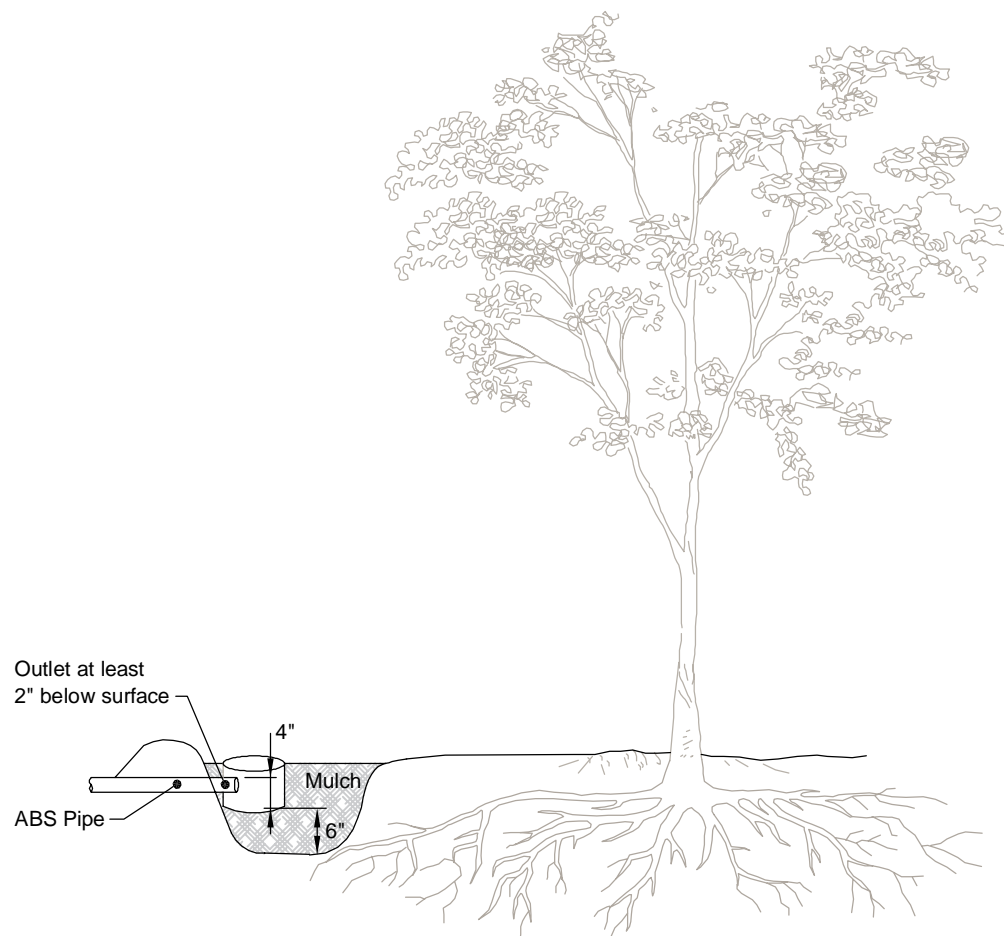

Figure 8. Mulch shield inside of mulch basin. Note: Roots of a real tree would extend under basin and outside of drip line by many feet.
5. Prepare the landscape: dig mulch basins around the drip lines of the plants to be irrigated, trench the pipe to the plants, and construct mulch shields for subsurface irrigation (Figure 8). Make sure that the graywater is discharged at least 2 inches below ground surface and that it falls through the air onto 4 to 6 inches of mulch.